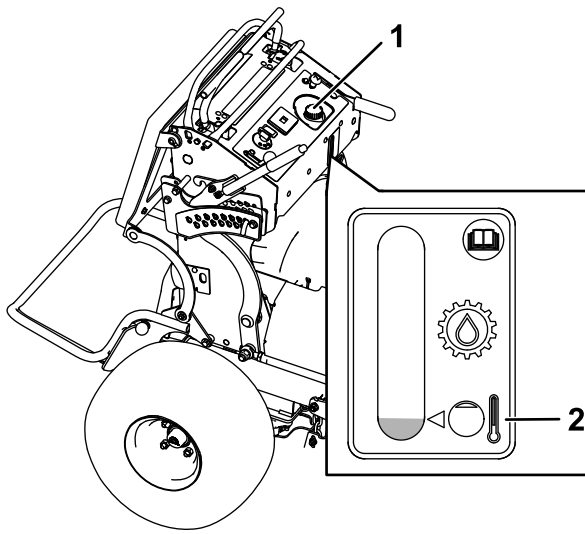

Figure 81
4. Clean the area around the cap and the filler neck of the hydraulic tank (Figure 81).
5. Remove the cap from the filler neck (Figure 81).